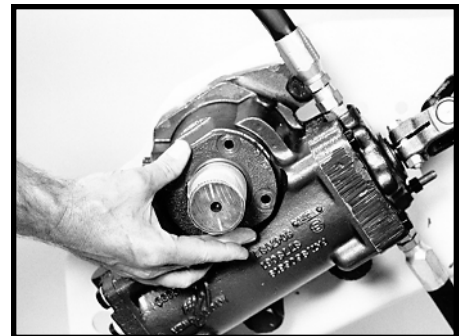

Figure 13
1.10 Install the trunnion cover (26) and four trunnion bolts (28). Torque bolts to 15-22 ft. lbs. (20-30 N m) if dry or 11-16 ft. lbs. (15-22 N m) if lubricated. One-half inch socket required. SEE FIGURES 13, 14.